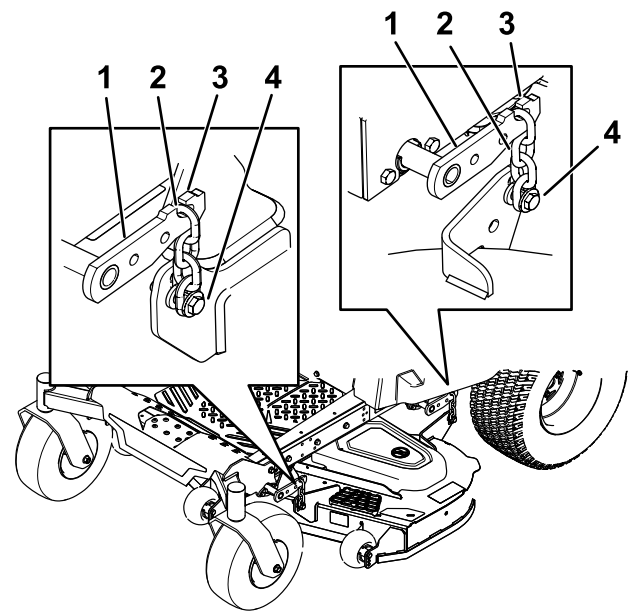

Figure 77
8. Remove the chains from the hooks on the deck-lift arms (Figure 77).
6. Lift the rear of the mower deck and attach the chains to the rear lift arms (Figure 77).
7. Attach the front chains to the front lift arms (Figure 77).